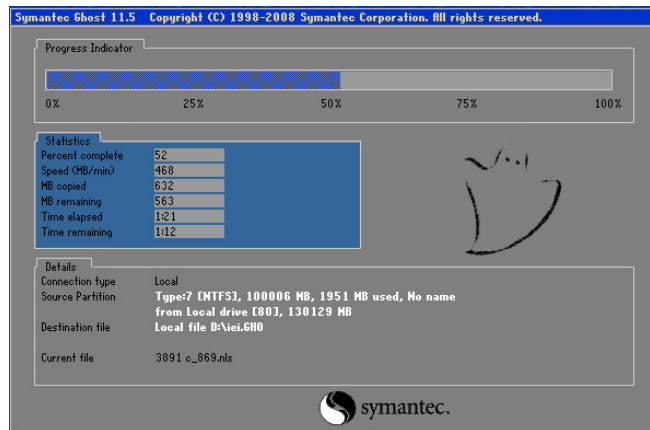

Figure C-28: Image Creation Complete
Step 8: The Symantec Ghost starts to create the factory default image (Figure C-28).